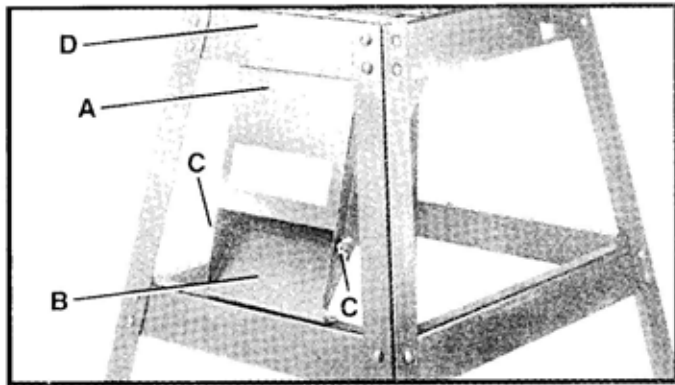

Fig. 14
1. Assemble dust chute cover (A) Fig. 14, to dust chute (B) using two wing screws (C). **IMPORTANT:** Top of dust chute cover (A) must be inside top end brace (D) of stand and should completely cover the top of the dust chute. **WARNING:** During operation, the dust chute cover (A) must always be assembled as shown and should only be removed for cleaning.
1. Remove two wing screws (C) Fig. 14, from dust chute cover (A).